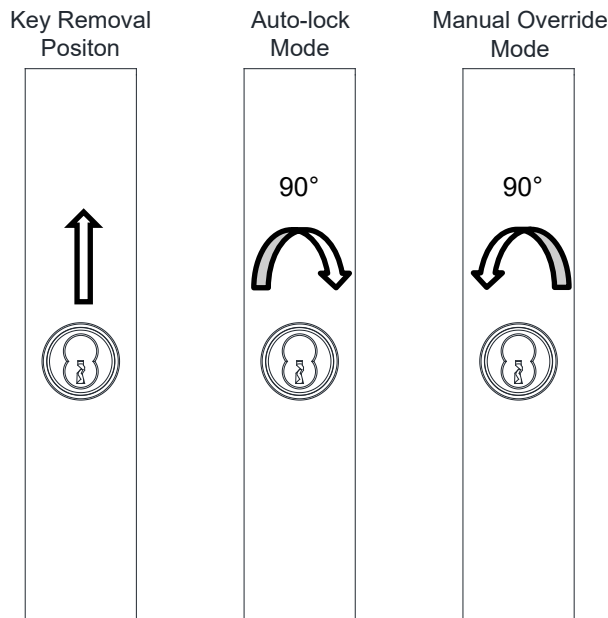

Figure 10
5. Set **both** locks into manual override mode and repeat steps 1-3. See **Figure 10**